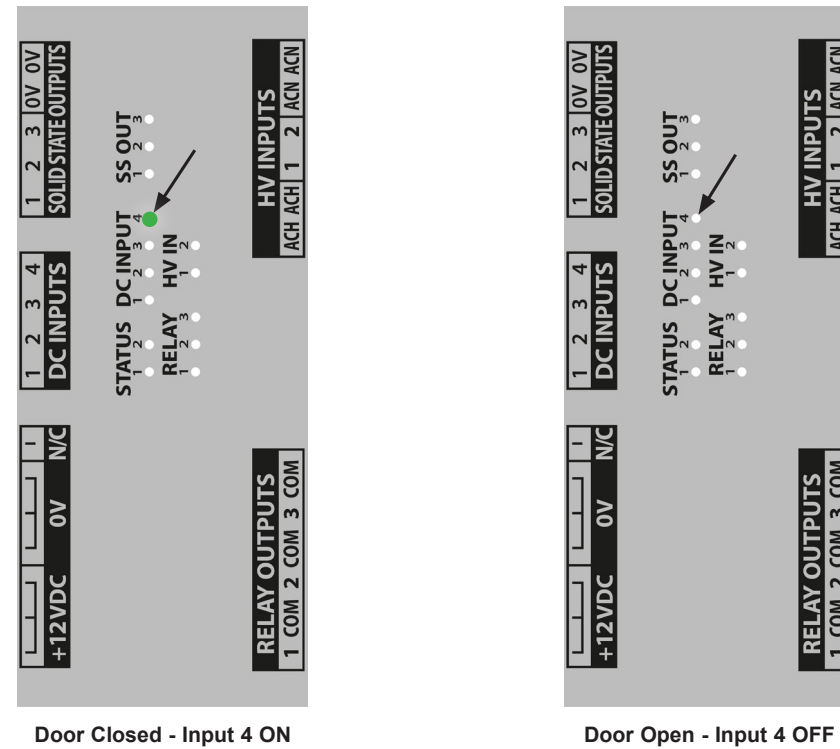

Figure 4
- Small Terminal Board: DC Input #4 OFF (Figure 4)
- Small Terminal Board: DC Input #4 ON (Figure 4)